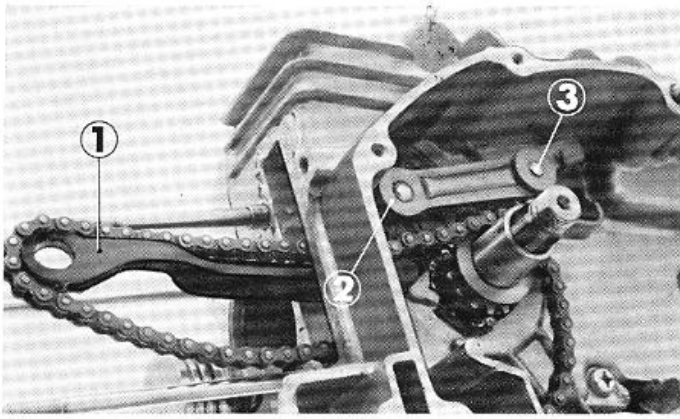

Fig. 2-43 ① Oil guide ② Headed rivet
3. Tensioner arm may be removed by filing off the headed rivet. (Fig. 2-43)